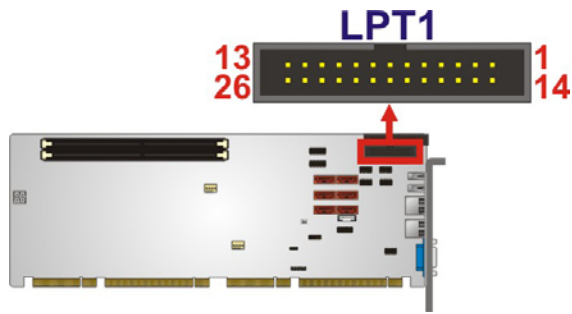

Figure 3-10: Parallel Port Connector Location
- CN Location:** See **Figure 3-10**